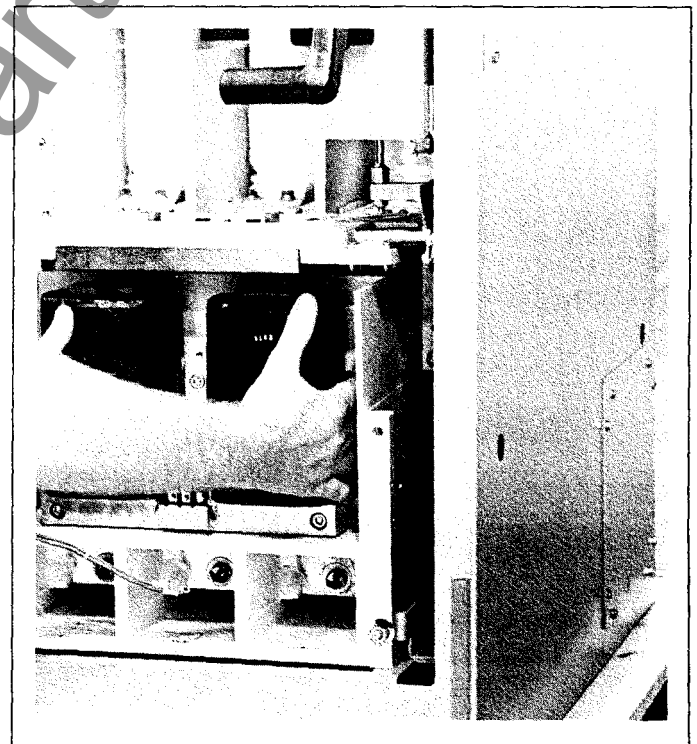
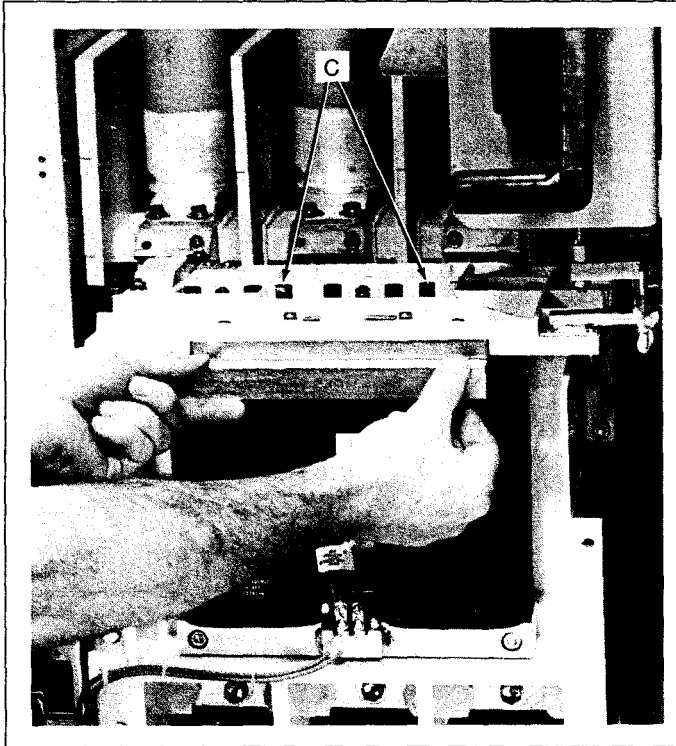
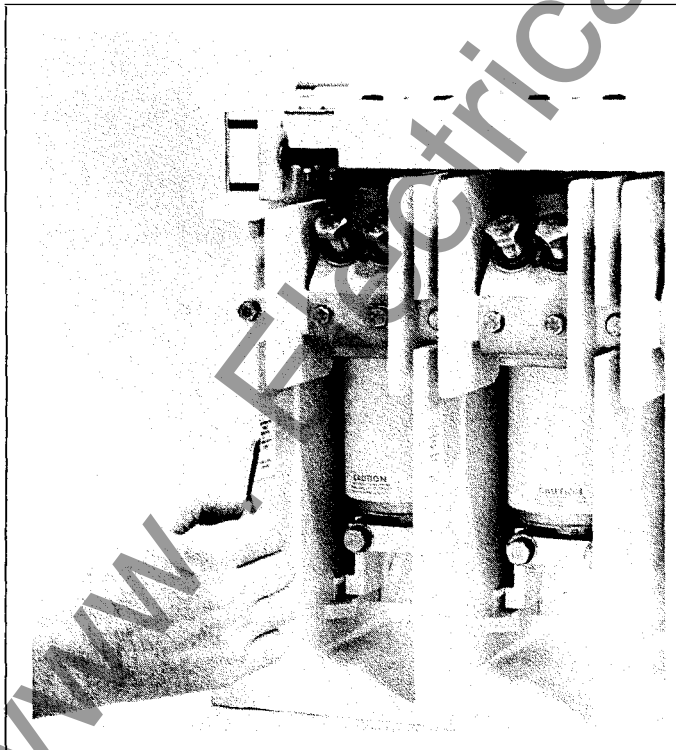
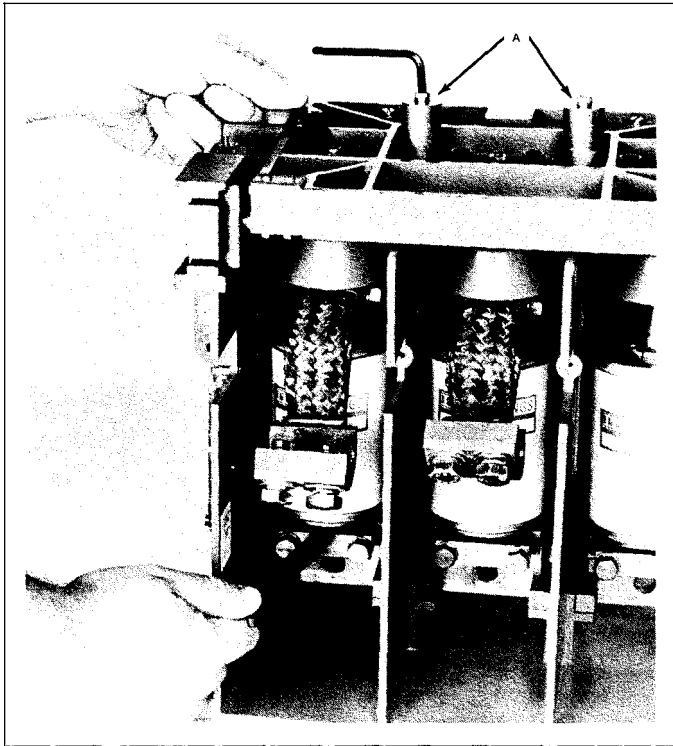

Figure 3. Removal of coil assembly.
Figure 4. Insertion of armature setting gage.
Figure 5. Appropriate removal of peel-off label.
Figure 6. Checking contact wear with wear gage.
5. Lift coil assembly out of contactor. See Figure 3.
6. Position the new coil into the contactor and start the three (3) mounting screws. Do not fully tighten these screws at this time.
7. Close contactor manually using the contactor closing tools. See Item A, Figure 6. Ensure that the pole faces of the coil mate with the moving armature.
8. Tighten the three (3) coil mounting screws fully. Open contactor by removing closing tools.
9. With the contactor in the open position check the magnet and coil air gap using the armature setting gage. Insert the gage fully between the armature and the coil pole faces. The gage should be a close sliding fit. See Figure 4. If adjustment is necessary follow Steps 10 and 11. If adjustment is not required then no other checks of the coil are necessary. Proceed directly to step 11.
10. Remove the two (2) barrel nuts at top of push-off spring rods (See Figure 4, Item C) and adjust the two (2) plastic stop nuts until the close sliding fit is obtained at the gage. Reassemble the two (2) barrel nuts and tighten them against the plastic stop nuts.
1. Close the contactor using the contactor closing tools (Item A, Figure 6). Do not overtighten. A single sheet of ordinary paper inserted between the armature and closing coil may be used as a helpful feeler gage to determine when the armature has just closed against the face of the coil poles.
2. Check for contact wear by inserting the “RESET” end of the contact wear gage between the locknuts and the spacer sleeve as shown in Figure 6. If the “RESET” end of the gage CANNOT be inserted then the interrupter needs to be reset. Follow Steps 3 through 7. If reset is not required go to Step 7. Each interrupter should be checked and reset as required.
4. Using the interrupter adjustment wrench turn the alignment ball to raise the interrupter until the “INITIAL” end of the gage can be inserted as shown in Figure 6.
5. Retighten the two (2) clamp block screws (8 lb-ft.) to lock the alignment ball in place. After the clamp block screws are tightened check to see that the fit at the wear gage is tight; if not re-adjust the interrupter position as described in Step 4.
6. Adjacent to the interrupter is an interrupter reset indicator label. This label indicates the number of times each interrupter has been reset. Remove the appropriate portion of the peel-off label. See Figure 5. If the interrupter has previously been reset two (2) times then the indicator label will show blue and red marking in the areas where the peel-off portions of the label have been removed during previous resets. If this is the case the interrupter must be replaced. Refer to Section 7 “Interrupter Replacement”.
11. Using the interrupter adjustment wrench to turn the alignment ball, raise or lower the interrupter until the "INITIAL" end of the contact wear gage can be inserted between the spacer sleeve and the nuts on the driver stem. See Figure 6.
12. Tighten the two (2) clamp block screws (8 lb-ft.) to lock the alignment ball in place. After the clamp block screws are tightened check to see that the fit at the wear gage is tight; if not re-adjust the interrupter position as discussed in Step 11.
13. Remove the old interrupter reset indicator label that is adjacent to the interrupter and apply new label supplied. See Figure 5.